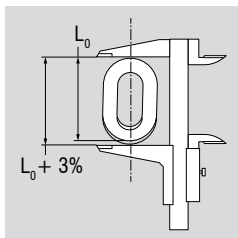

Fig. 10: Impermissible wear and tear or elongation on a chain link
- Impermissible wear and tear or elongation on a chain link e. g. when the rated dimension of the inner length is exceeded by 5 %. This corresponds to an outer elongation of 3 % (Fig. 10)